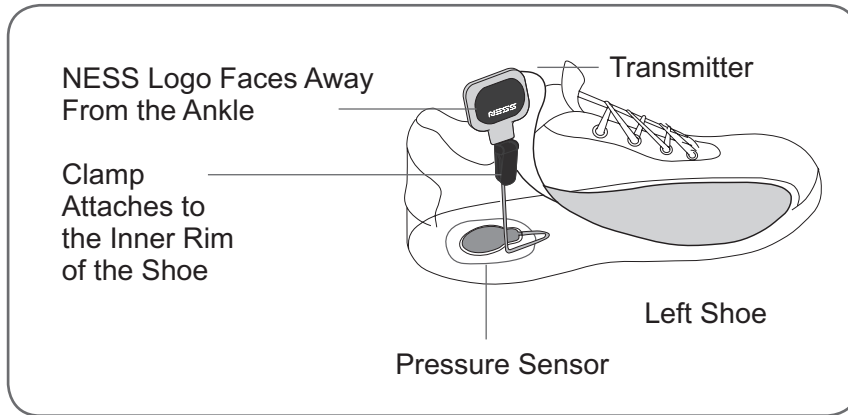

Figure 7-10: Clamping the transmitter to the inner rim of the shoe.
2. Clamp the transmitter to the inner rim of the shoe. The NESS logo on the transmitter should face away from the ankle. See Figure 7-10.